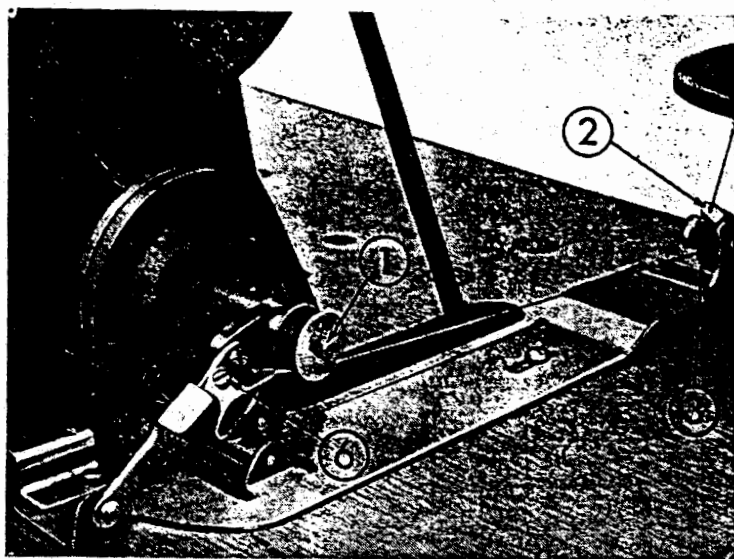

Fig. 8
## 8. How to wind the bobbin (Fig. 8)
Fasten the bobbin winder to the table as shown in Fig. 8. Be sure to fasten the pulley ⑤ so that it will be contacting the belt correctly at the winding position. To wind the bobbin, first, insert the bobbin into the pulley shaft ① as far as it will go. Then, after passing the thread through the eyelet ② of the thread guide on the tension bracket, pass it between the 2 thread tension discs ③ towards you from the back side, then pull out this thread and wind the tip of this thread into the bobbin from under-side several times around. Then, if the trip latch ④ is pressed, it will press down the bobbin and the pulley will contact the belt and with the rotation of the machine, the pulley will also rotate. When sufficient amount of thread is wound, the trip latch will be released and the rotation of the pulley will stop. The amount of wound thread can be regulated by the screw ⑥. This winding process can be performed during the running of the machine.